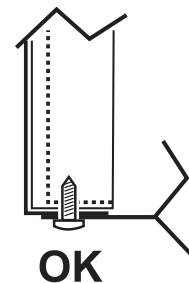

fig. 17 - upper screws mounting
3. Proceed in reverse order to reassemble the front panel. Make sure that it is correctly attached to the upper fixing and completely resting on the side panels. The head of the screw "A", once tightened, must not be underneath the lower bending stop (see "fig. 17 - upper screws mounting").